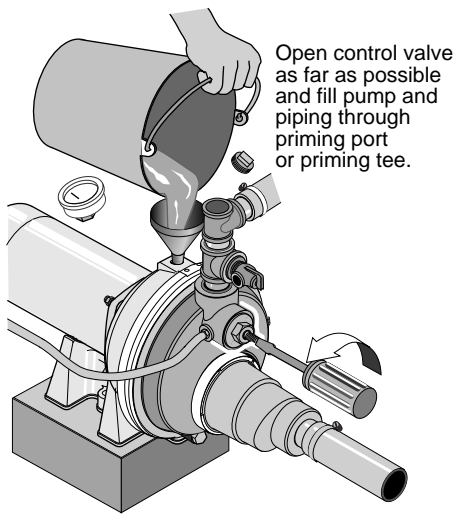

Figure 19: Open Control Valve
1. Open the control valve as far as possible (see Figure 19). Then remove the priming plug from the pump and fill the pump, fill all piping between the pump and the well, and make sure that all piping in the well is full. If you have also installed a priming tee in the suction piping, remove the plug from the tee and fill the suction piping.